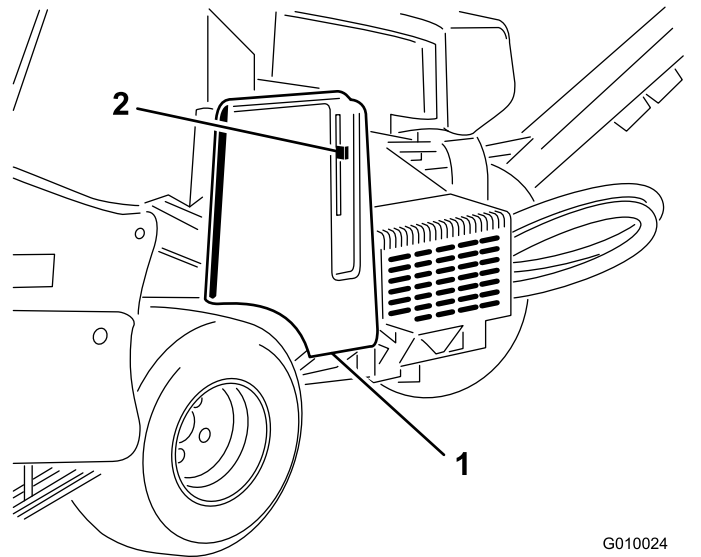
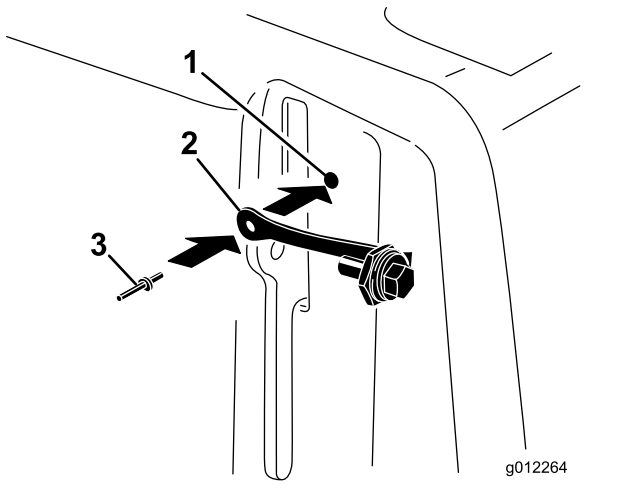

Figure 6
Figure 7
1. Locate the hole in the belt cover next to the latch lever (Figure 6 and Figure 7).
2. Using the hole in the belt cover, install the lanyard assembly with a pop rivet (Figure 7).